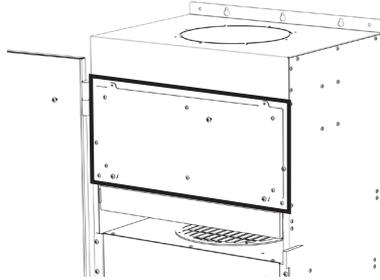

Fig. 5 Remove panel.
3. Remove the four screws securing the cover. See Fig. 5 on the following page.
1. The PCO filter is behind a sheet metal panel. Remove the top screws and loosen the bottom screws to remove the panel. See Fig. 5.